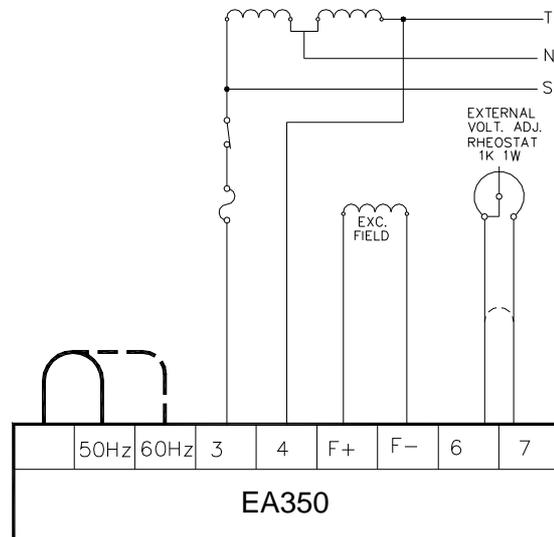

Figure 5 1Ø 220VAC Diagram
- See Figure 5~6 for typical connection diagram
See Figure 5~6.
The screwdriver adjustable potentiometer adjusts the generator output voltage. Adjustment clockwise increases the generator output voltage. When using a remote voltage adjust rheostat, remove the jumper wire across terminals 6 and 7 and install a 2000 ohm 1/2 watt (minimum) rheostat. This will give $\pm 10\%$ voltage variation from the nominal. (For $\pm 5\%$ voltage variation use a 1000 ohm 1/2 watt rheostat). See Figure 5~6.